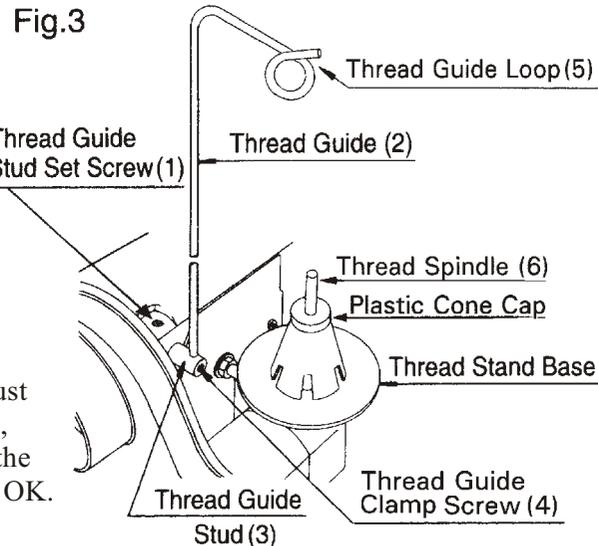

Fig.3
B. Thread Stand and Thread Guide Pole. (Fig.3)